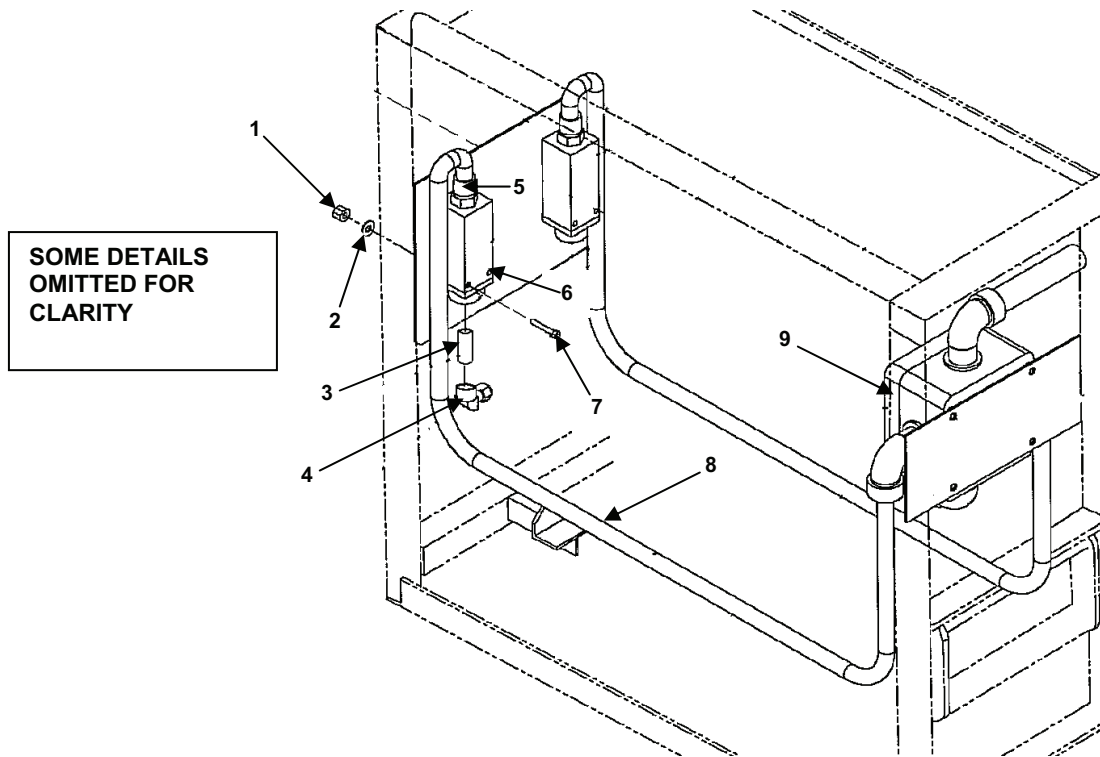

Figure 3. High-Pressure Switch Removal.
5. Remove the conduit (Figure 3, item 8) from the junction box (Figure 3, item 9).
6. Remove the conduit (Figure 3, item 8) from the high-pressure switch (Figure 3, item 6) at the top nut (Figure 3, item 5). Pull wires out from the conduit (Figure 3, item 8).
7. Remove tubing from elbow fitting (Figure 3, item 4).
8. Remove screws (Figure 3, item 7), nuts (Figure 3, item 1) and washers (Figure 3, item 2).
9. Remove elbow fitting (Figure 3, item 4) and adapter (Figure 3, item 3).
- Install high-pressure switch (Figure 3, item 6) and secure with screws (Figure 3, item 5), nuts (Figure 3, item 1), and washers (Figure 3, item 2).
- Feed the wire through the conduit (Figure 3, item 8) and into the junction box (Figure 3, item 9).